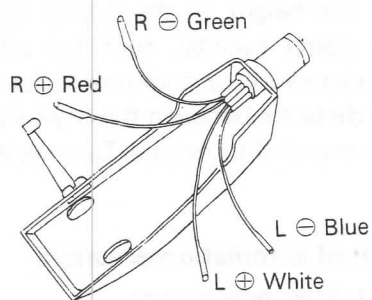

Figure 2
- (1) Attach the Cartridge to the Headshell with screws.
- (2) The polarities and L/R channel wires are shown in Figure 2. Make connections to the Cartridge following the instructions provided with it (and/or follow the markings on the Cartridge).